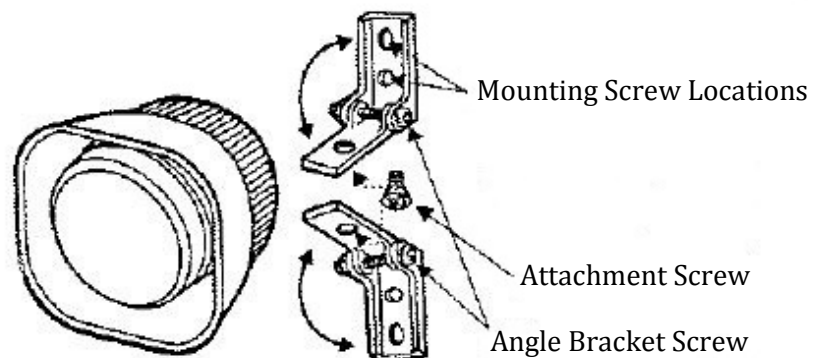

Figure 4
- Mount the RASR using the mounting bracket supplied with the kit. Refer to figure 4.
To log out or change a password select the user name tab in the upper right corner of the screen shown in figure 4.